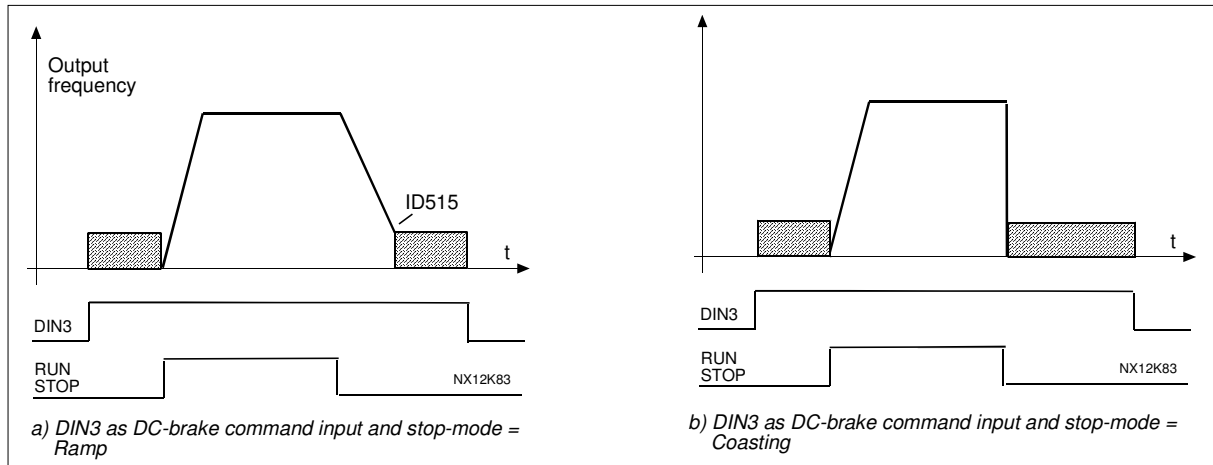

Figure 8-9. DIN3 as DC-brake command input: a) Stop mode = Ramp, b) Stop mode = coasting
- 12 DC-braking command contact closed = In Stop mode, the DC-braking operates until the contact is opened, see Figure 8-9